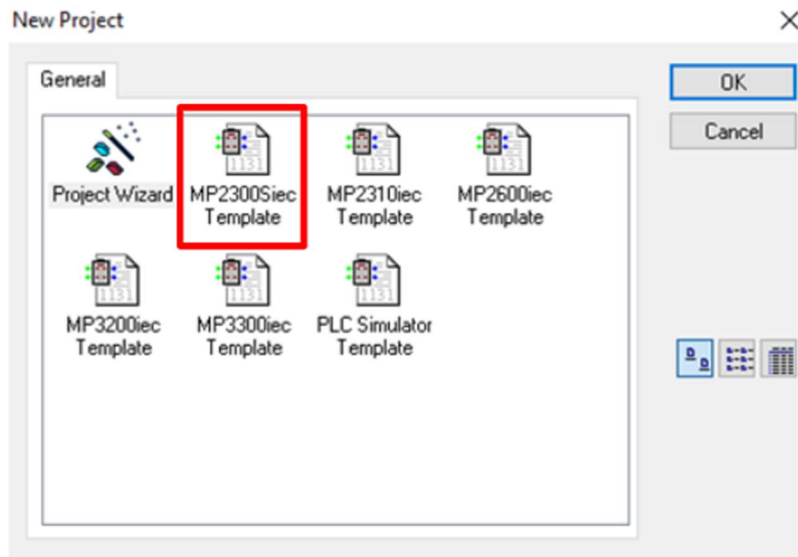
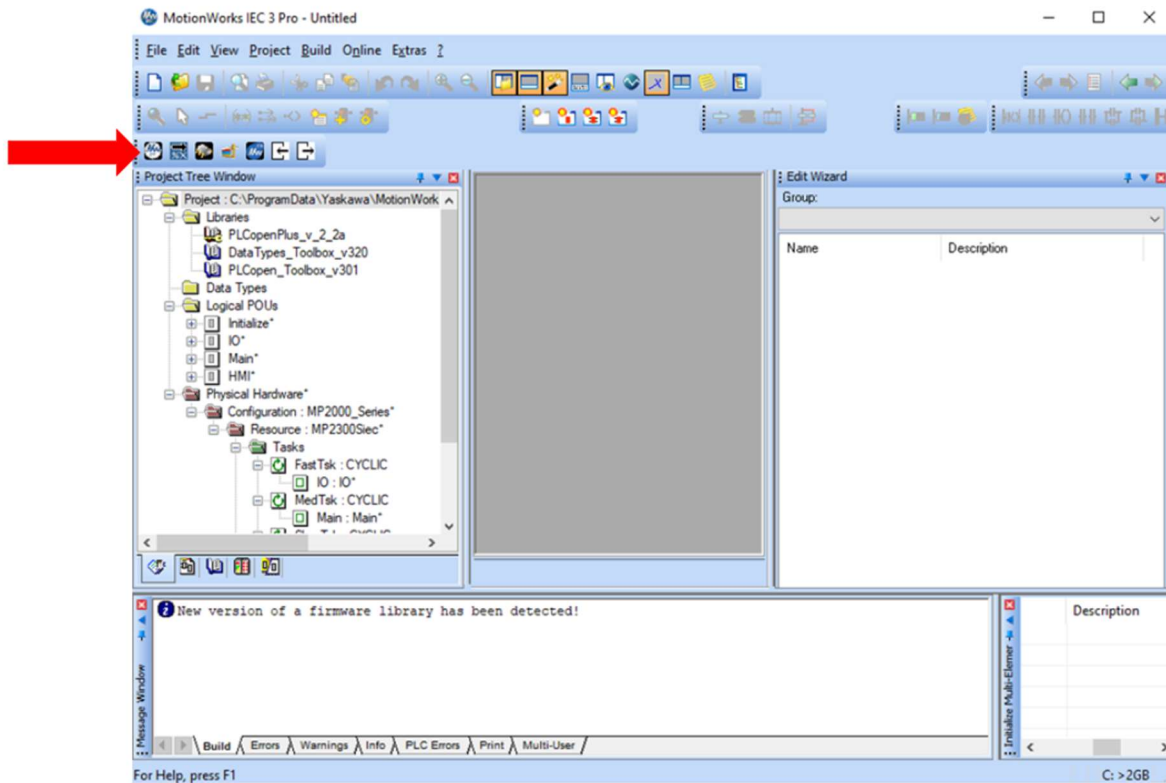

Figure 2: New Project Prompt Window
Figure 3: MotionWorks IEC Workspace with Arrow to Hardware Configuration
- Search for the MotionWorks IEC in the computer and launch the application. If your window looks like Figure 3 instead of Figure 2, then go to the top left and hit File>New Project and Figure 2 should open.